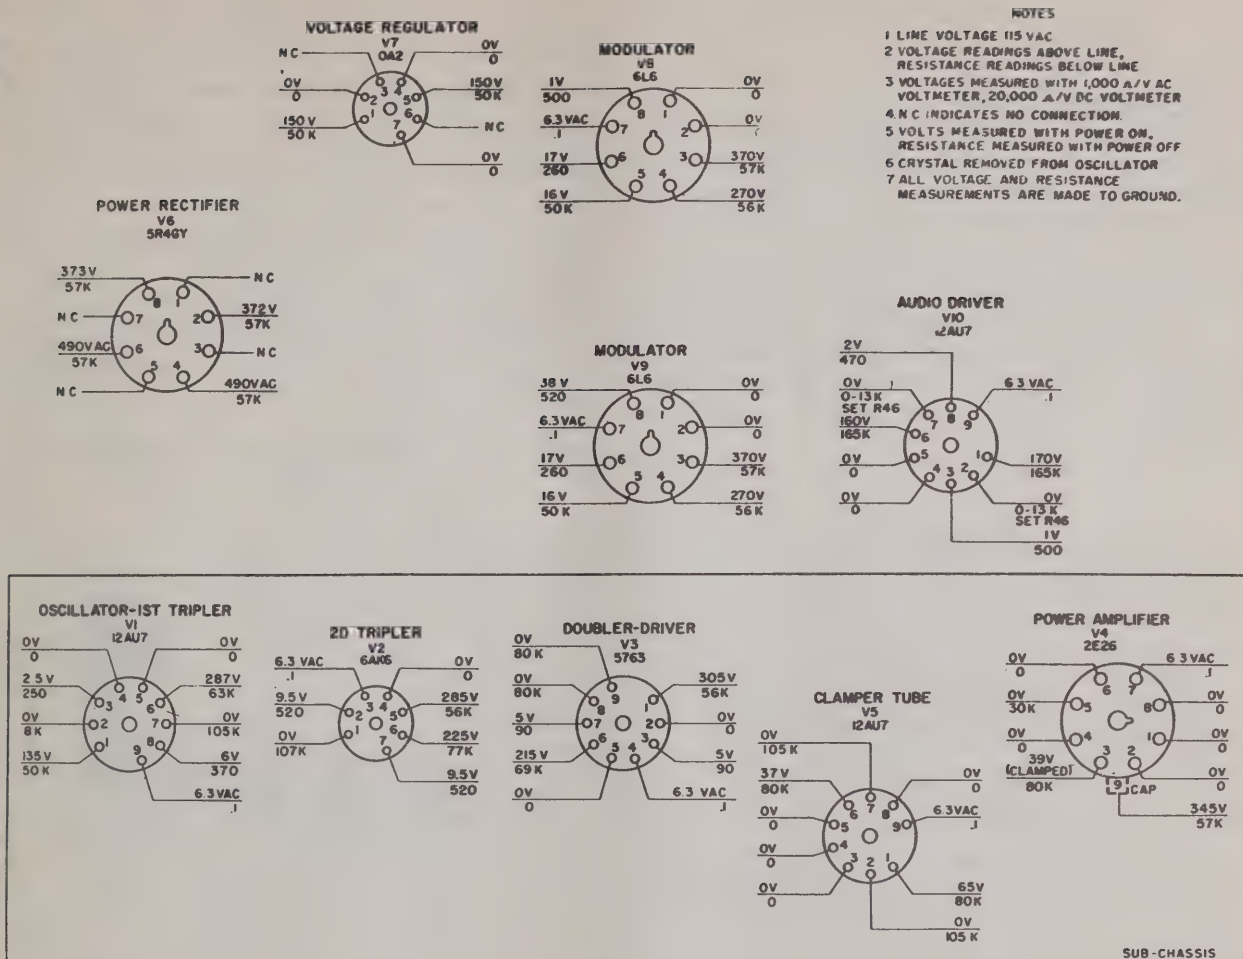

Figure 44. Radio Transmitter T-593(\*)/TRC-47, Tube socket voltage and resistance.
c. Take voltage measurements at the tube sockets (fig. 44) and other points related to the stage in question.
d. If voltage readings are abnormal, take resistance readings (fig. 44) to isolate open or short circuits. Refer also to the dc resistance of transformers and coils (par. 57).